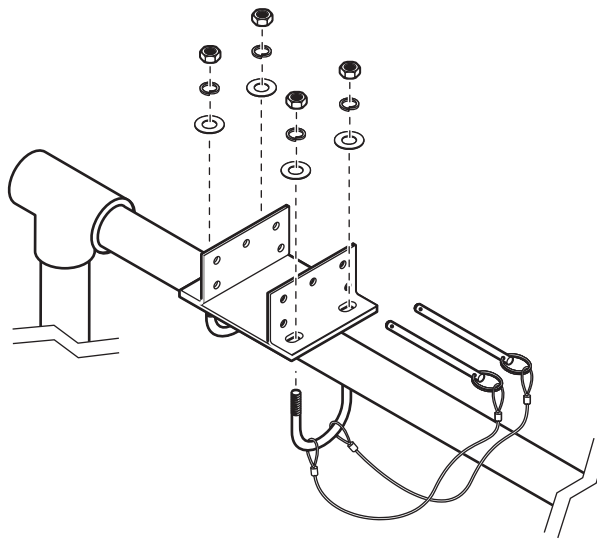

Figure 3: Installing the mounting bracket
1. Find a suitable installation location and loosely fit the mounting bracket to the railings (Figure 3: on page 5).